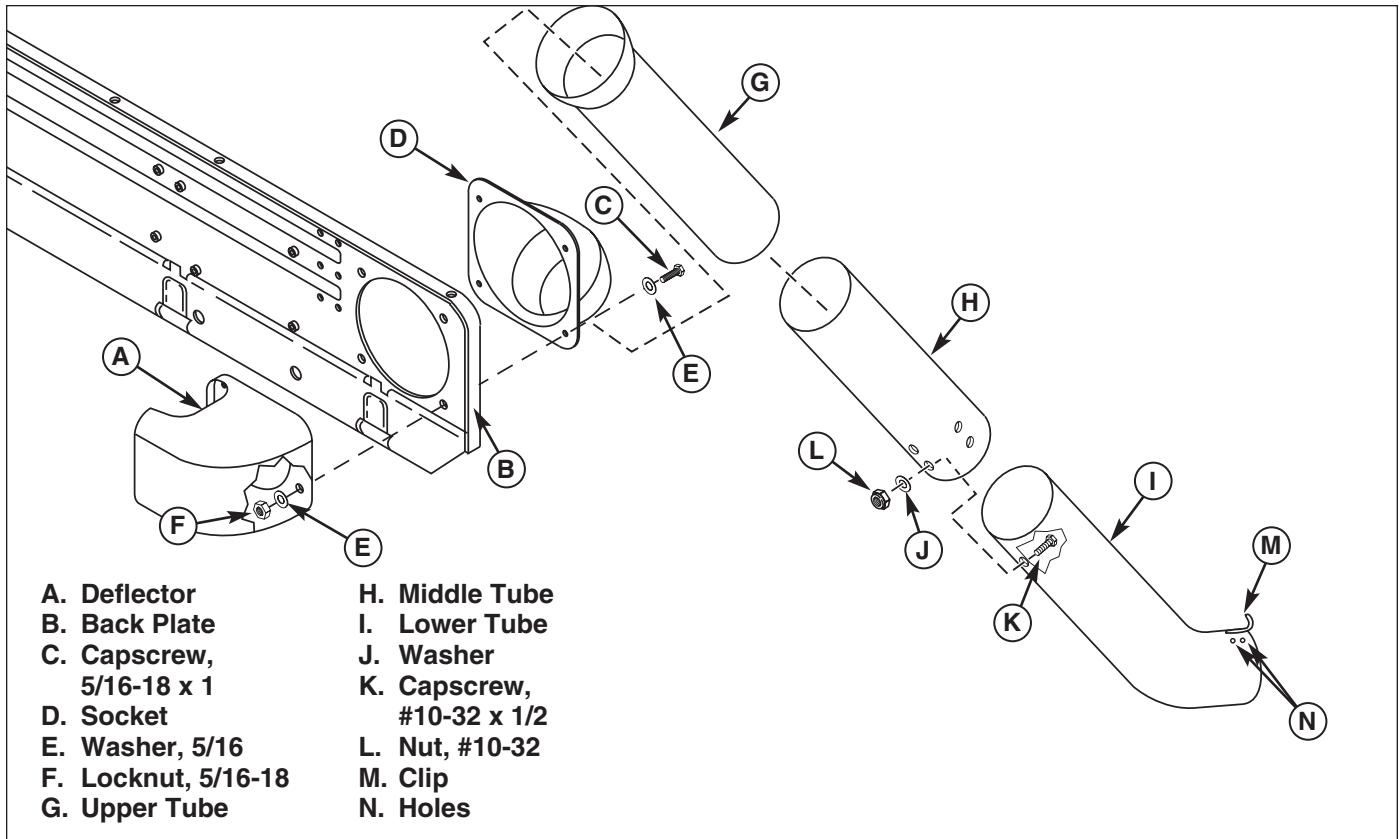

Figure 4. Assemble Tubes & Deflector
2. If not already done, insert the upper tube (G, Figure 4) into the socket (D). Insert the tube from the front. This will require some effort.
3. Mount the socket (D, Figure 4) and deflector (A) to the back plate (B) using the four 5/16-18 x 1 cap-screws (C), eight flat washers (E), and four nylock nuts (L) as shown in Figures 4 & 6.